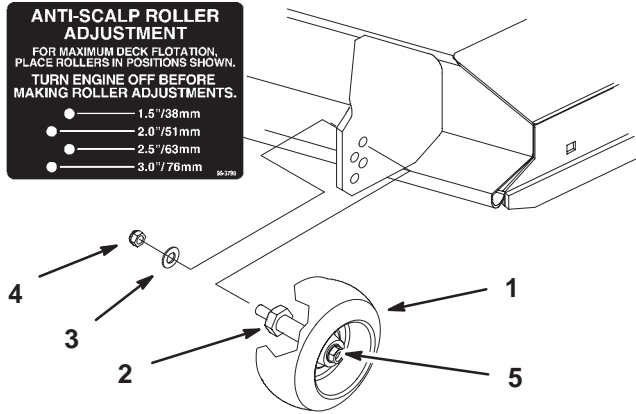

Figure 22
2. After adjusting height-of-cut remove flange nut and spring disk while holding stud with wrench (Fig. 22).
Note: Do not remove the wheel nut and washer (Fig. 22).
3. Select hole so gage wheel is positioned to the nearest corresponding height-of-cut desired (Fig. 22).
4. Reinstall the flange nut and spring disk. Torque to 40-45 ft-lb (54-61 N•m) (Fig. 22).